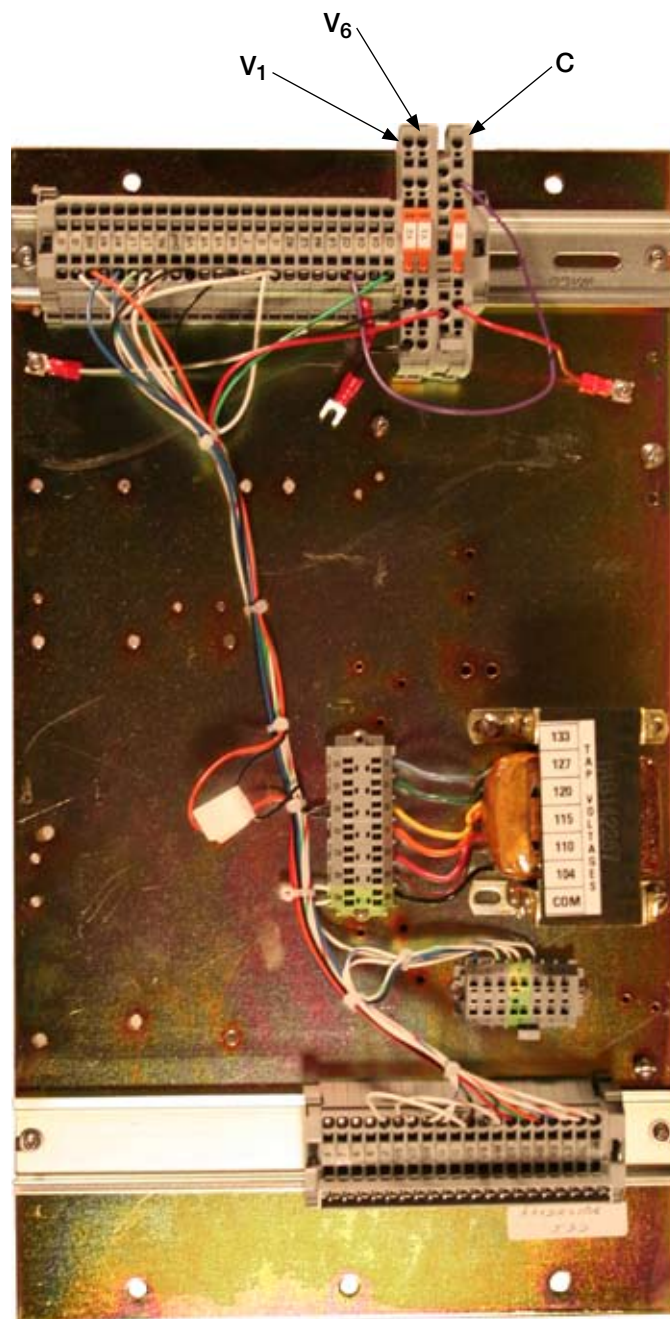

Figure 11.
3. Knife switches on back panel should be set with **V₁** (potential switch) (and **V₆** if present) closed (pushed in) and **C** (CT shorting switch) open (pulled out). See Figure 11.
4. Close source-load (SL) disconnect switch if available.
5. Close source (S) disconnect switch.
9. Close load (L) disconnect switch.
3. Knife switches on back panel should be set with **V₁** (potential switch) (and **V₆** if present) open (pulled out) and **C** (CT shorting switch) closed (pushed in). See Figure 11.
8. For Delta applications only: Close source-load (SL) disconnect switch.
- D. Open **V₁** knife switch (and **V₆** if present) located on control back panel (see Figure 11).
3. Open **V₁** knife switch (and **V₆** if present) located on control back panel (see Figure 11).
6. Open load (L) disconnect switch.
7. Open source (S) disconnect switch.
8. Open source-load (SL) disconnect switch, if available.